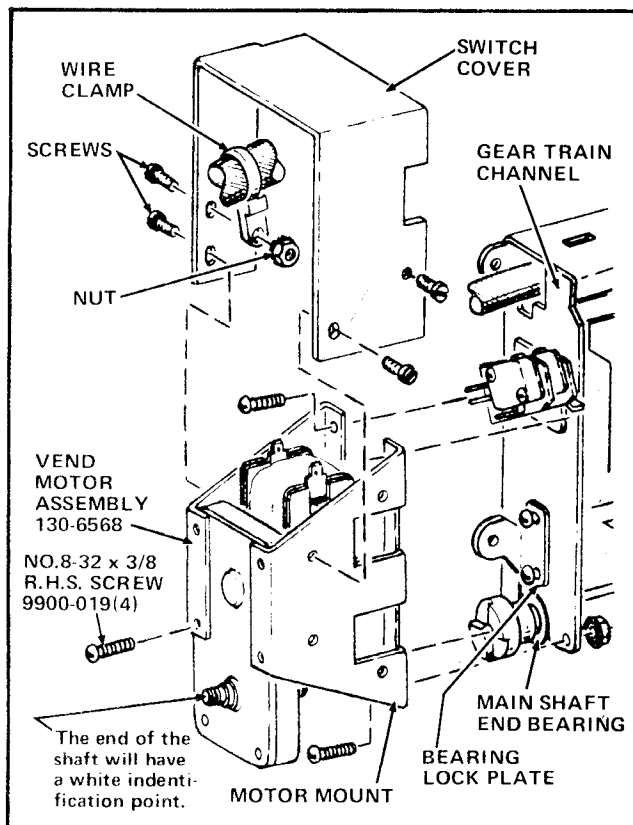

FIGURE 4
2. Remove the Vend Motor from the Gear Train Assembly. See Figure 4.
- b. Loosen two screws and rotate Bearing Lock Plate to free power shaft for removal. See Figure 4.
- (3) On later model Merchandisers the edge of the Gear Train Channel must fit in the slot of the Power Shaft End Bearing. See Figure 4.
- b. Secure power shaft in place by rotating Bearing Lock Plate and matching flat on power shaft bearing to Bearing Lock Plate. Tighten retaining screws on Bearing Lock Plate. See Figure 4.
6. Install the Vend Motor Assembly, Part Number 130-6568, included in the Kit, on the Gear Train Assembly. See Figure 4.